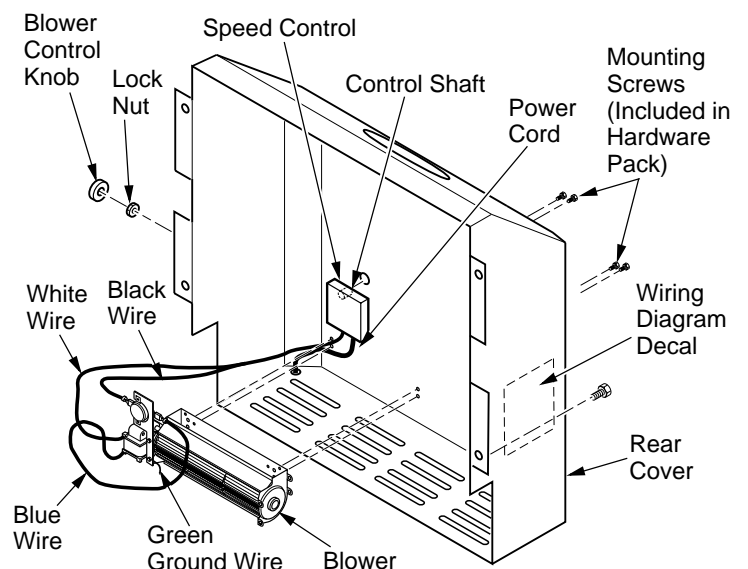

Figure 15 - Installing Optional Blower Accessory (Thermostat Model CDA3610T Shown)
1. Align the holes in the top mounting tabs of blower with holes in wall of rear cover (see Figure 15). Using the 4 screws provided, mount blower and tighten screws securely.
3. Place speed control on back wall inside of rear cover and push the plastic control shaft through opening (see Figure 15).
4. While supporting speed control, secure control shaft with lock nut by pushing and turning lock nut with pliers clockwise until tight against the side of rear cover. Place control knob provided onto shaft (see Figure 15).